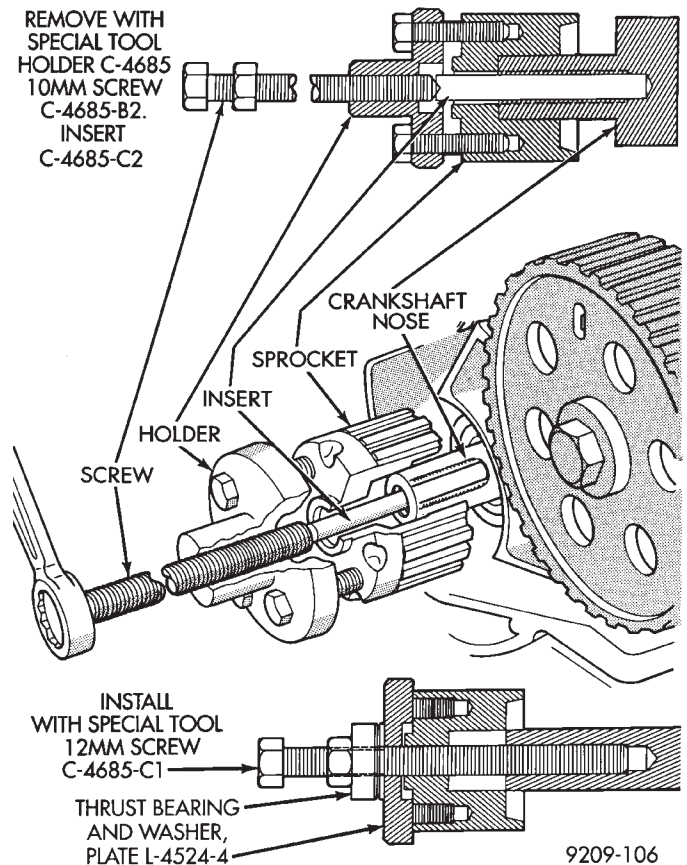

Fig. 7 Crankshaft Sprocket
- (1) With timing belt removed, remove crankshaft sprocket bolt.
- (2) Remove crankshaft sprocket using Special Tool C-4685, Insert and 5.9 inch long screw (Fig. 7).
- (3) Install crankshaft sprocket using plate L-4524, Thrust Bearing/washer and 5.9 inch long screw (Fig. 7).